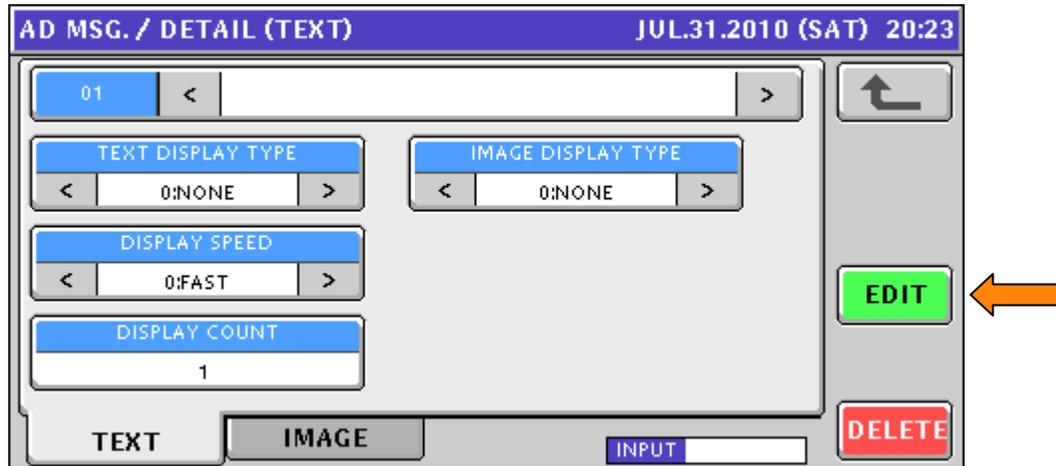

Figure 8.1. Ad. Message Text and Settings
6. Press **EDIT** to enter the Ad Message text. See Figure 8.1.